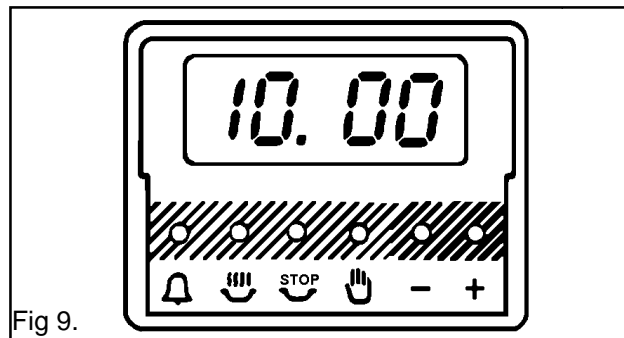

Fig 9.
- i) Ensure the electricity supply is switched ON and that the correct time of day is displayed, e.g. 10.00am. Fig.9.